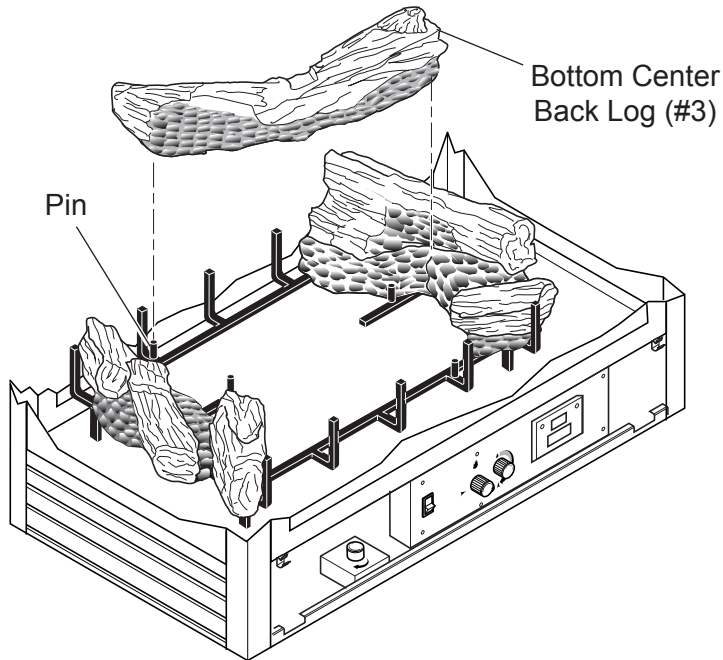

Figure 46 - Installing Bottom Center Log (#3)
5. Position left end of bottom center back log (#3) beside rear end of left log (#1). Line up pin on grate with pin hole in bottom of center back log (#3). Snug right end of bottom center back log (#3) to the middle of right log (#2). See Figure 46.